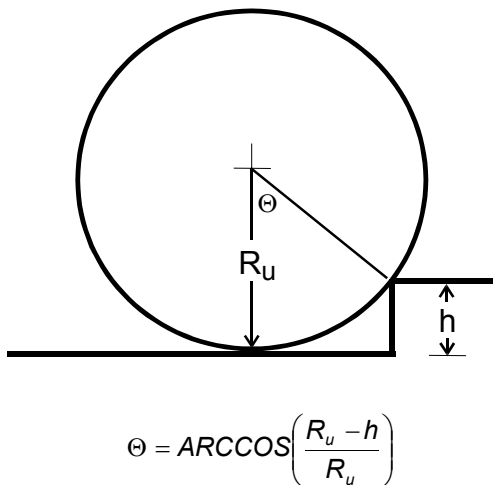

Figure 3 - Calculating the minimum required Angular Span value for a curb impact..
- If the Radial Spring Tire-Terrain Model is used for a relatively flat terrain, setting the Angular Span to +/- 90 degrees will result in slow execution because the search for spring elements at exactly +90 and -90 are approximately parallel to the terrain and are unlikely to hit a triangle. This suggests it is a good idea to set the Angular Span to the minimum angle that accomplishes the desired task, i.e., finds the required tire-terrain interaction. For example, the minimum Angular Span, Θ , for a curb impact can be estimated from the curb height, h , and the tire's unloaded radius, R_u , as shown in Figure 3.